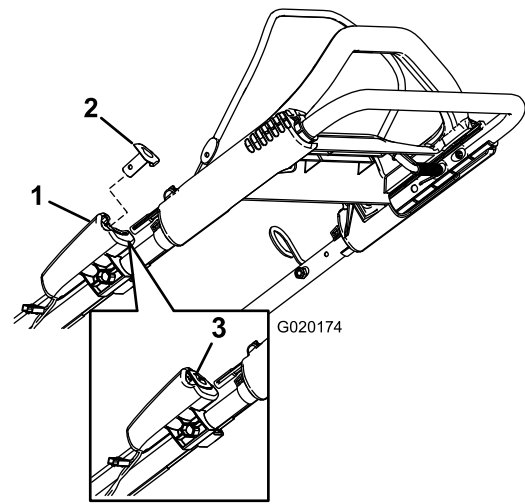

Figure 18
2. Push the electric-start button until the engine starts (Figure 18).
Note: If the electric-start button has been removed, insert it in the electric starter; refer to Figure 18.